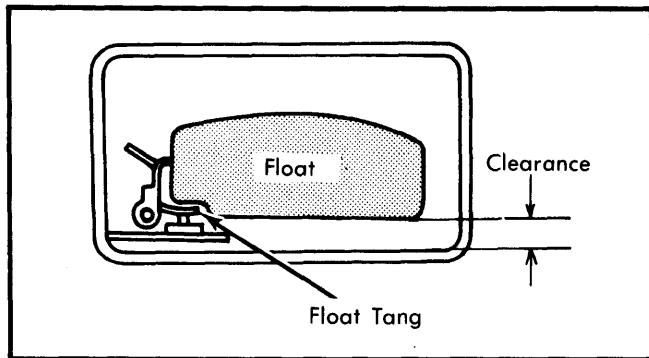

Fig. 4 Checking Float Level Adjustment
2) Invert carburetor on stand and allow float to lower by its own weight. Measure clearance as shown in Fig. 4. Clearance should be .335" (8 mm). To adjust clearance, bend float tang until proper clearance is obtained.